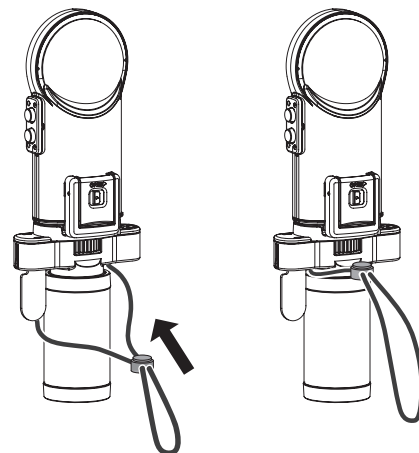

Figure 2
2. Insert the strap of the underwater housing case into the grip of the product and tighten the slider. (Figure 2)